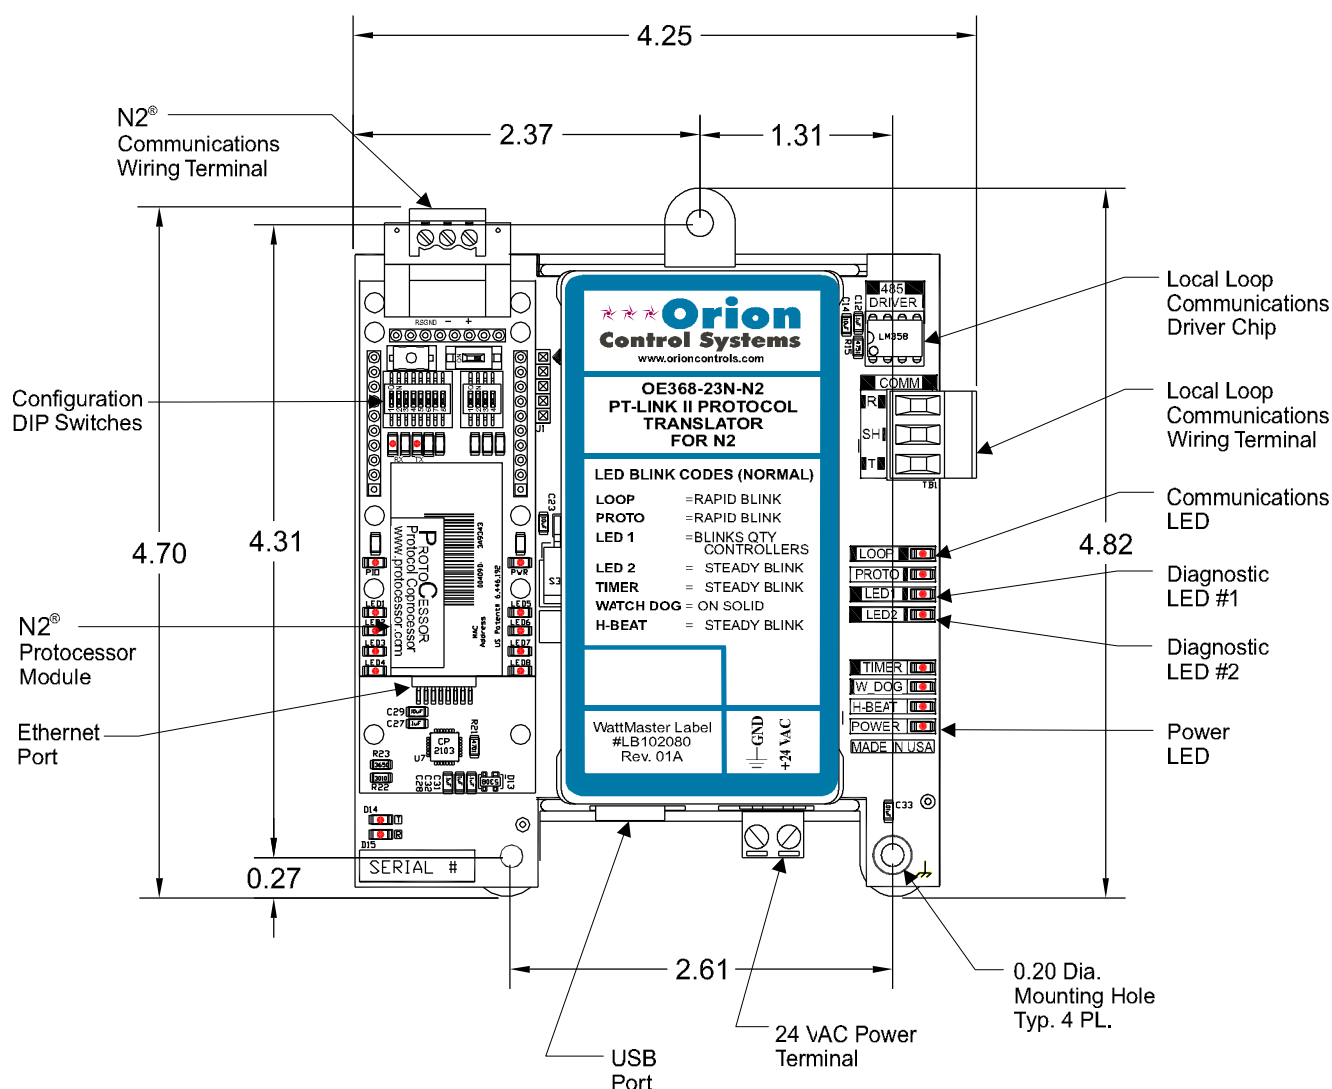

Figure 1: PT-Link II N2® Dimensions and Components
1. Familiarize yourself with the PT-Link II components (**Figure 1**).